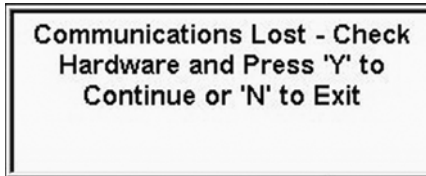

Figure 4-21 *Sample—Lost communication message*
- If a component is disconnected while you are navigating the application, a message displays(Figure 4-21).